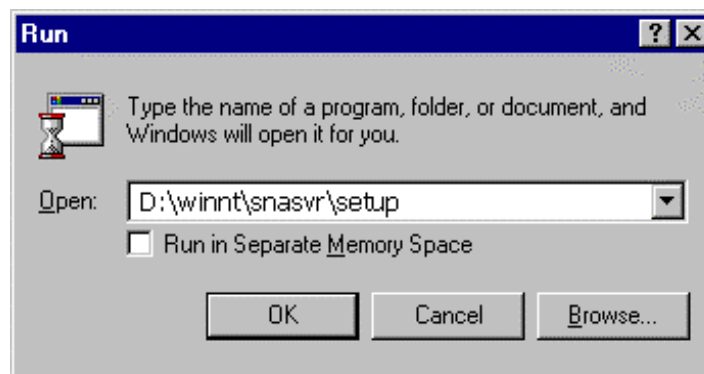

Figure 8-1. Starting Setup to Install a Data Link Service
1. Begin by pressing the **START** button on the Windows NT Server console. Select **Run**. Assuming your CD-ROM is the **d** drive, type **d:\winnt\snavr\setup** and press **OK**. (Figure 8-1).